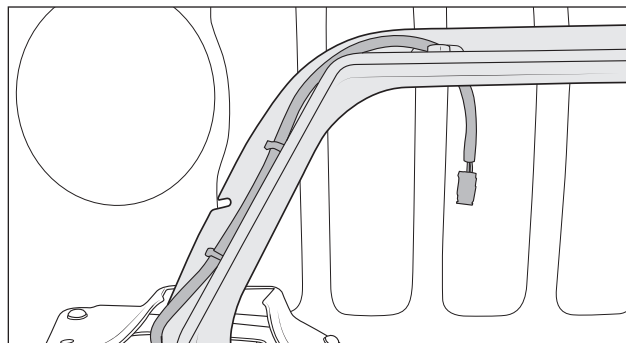

Figure 17
- A. If installing AEV offroad lights or camera relocation kit, route the wiring and sprayer hose, running them along the outside of the thick bracket on the hoop weldment and through the openings in the top of the bumper, and out the back along the frame opening. Use provided fur tree wire ties to retain the wiring and hose along the bracket. Make sure to leave enough slack to connect to mating components (fig. 17). See specific instructions for those kits for additional details.